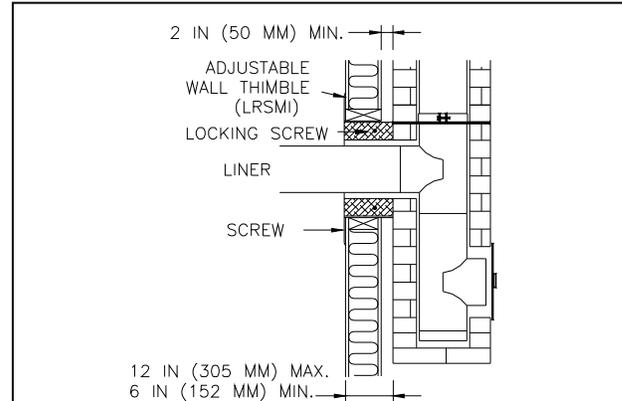

Fig. 6
- Slide the wall radiation shield (LRSMI) over the length and fix it to the wall using four (4) screws supplied (fig. 6).